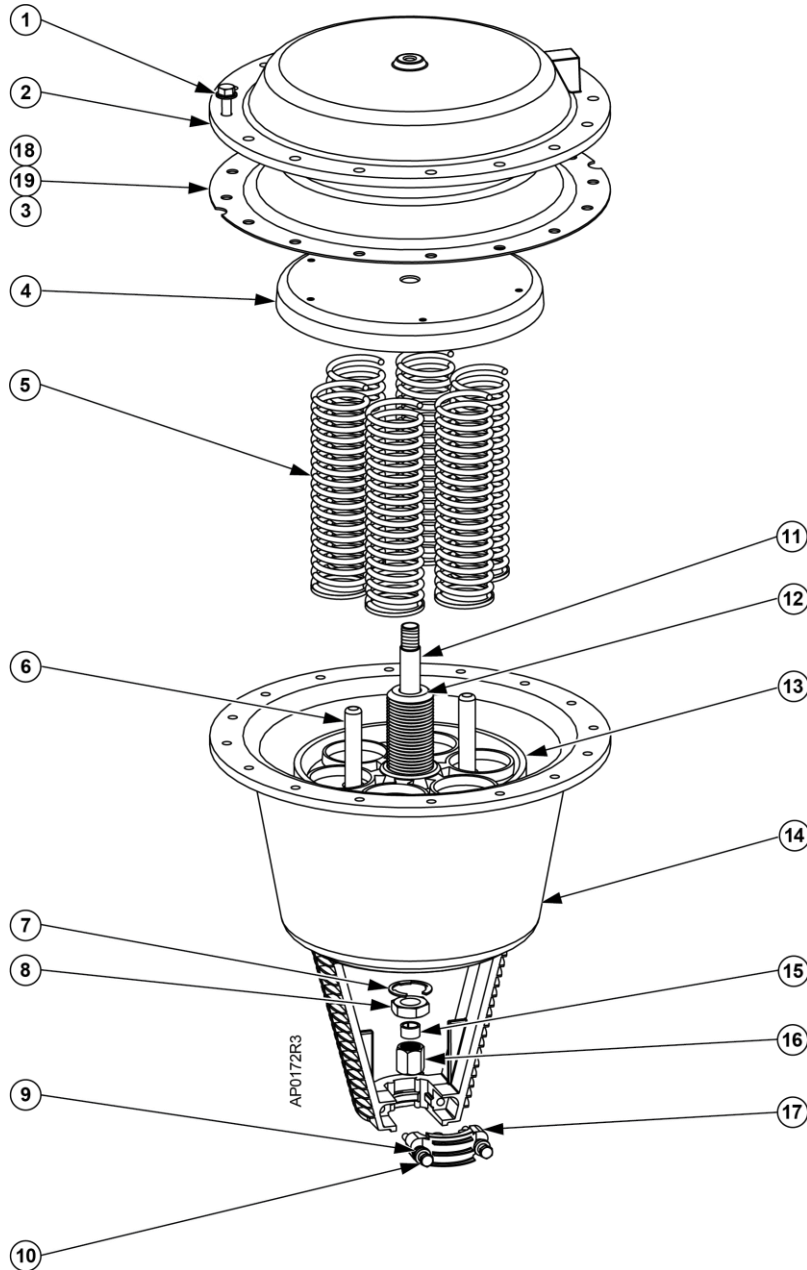

Figure 2. Flowrite AP 599 Series 12-inch Pneumatic Valve Actuator. See Table 2.
**Table 2. Parts List. See Figure 2.**